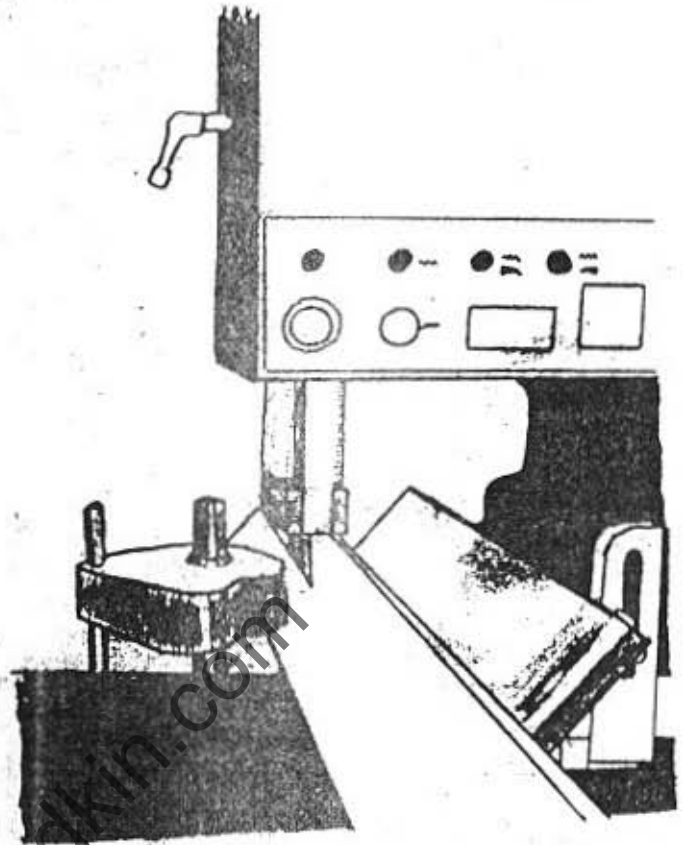

FIG 32
- H) Set the remaining feed roller and guard to a suitable position to cut angle of stock (Fig.32).